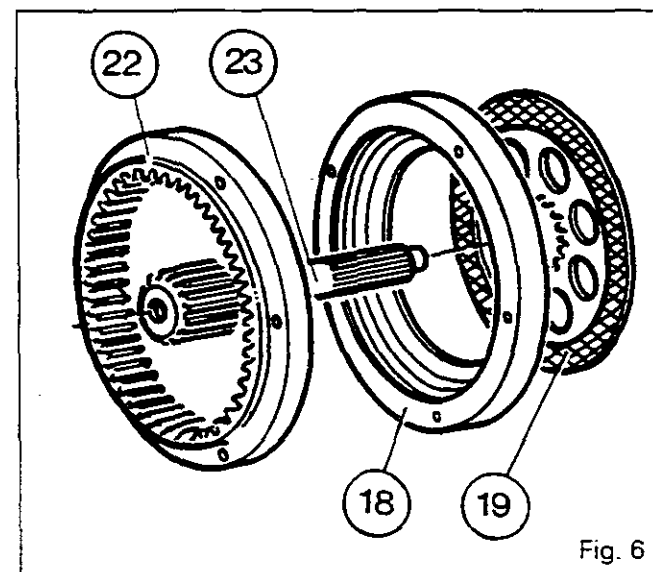

Fig. 6
20. Check that the disk (19) slides freely on the planetary shaft (23) (Fig.6).
21. Refit the locating dowel (27), the planetary shaft (23) and the brake disc (19).
23. Refit the brake plate (18) in the trumpet housing.